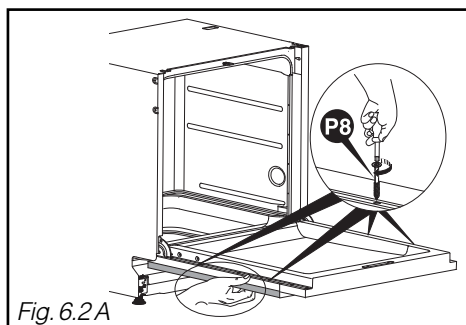

Fig. 6.2 A
- Place the wood panel flat against the door (Fig. 6.2).
- Open the dishwasher's door while holding the panel flat up against the door. Centre the wood panel at the sides with respect to the control panel, if necessary. Insert the 2 screws **P7** and the 4 screws **P8** (Fig. 6.2).
- Position your door panel by engaging the 2 screws in the holes in the dishwasher's door (Fig. 6.2 A)
- Place the wood panel flat against the door (Fig. 6.2 A).
- Open the dishwasher's door while holding the panel flat up against the door. Centre the wood panel at the sides with respect to the control panel, if necessary. Insert the 4 screws **P8** (Fig. 6.2 A).